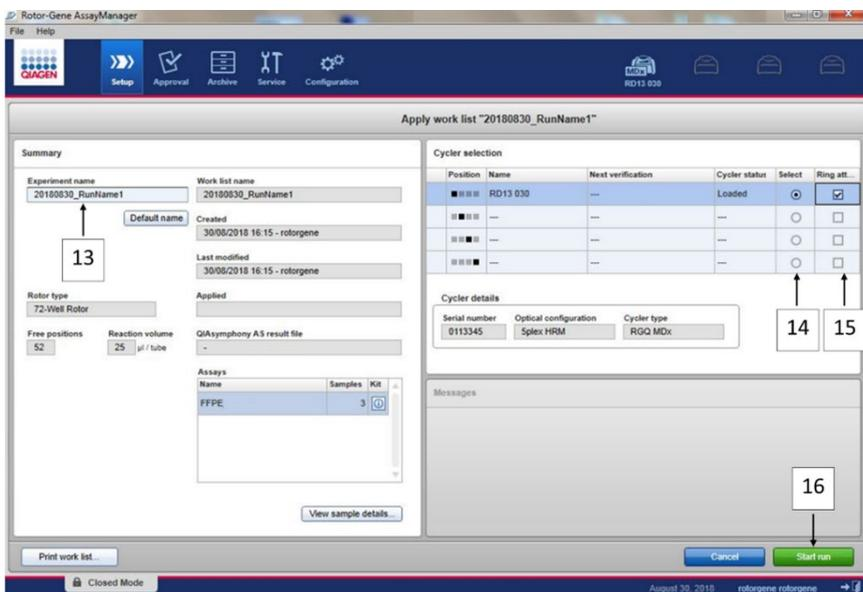

Figure 14. Run launch. 13 = Enter experiment name; 14 = cyclers selection; 15 = confirm locking ring is attached; 16 = click start run to launch the run.
31. Click **Start run**. The qPCR run starts (Figure 14).